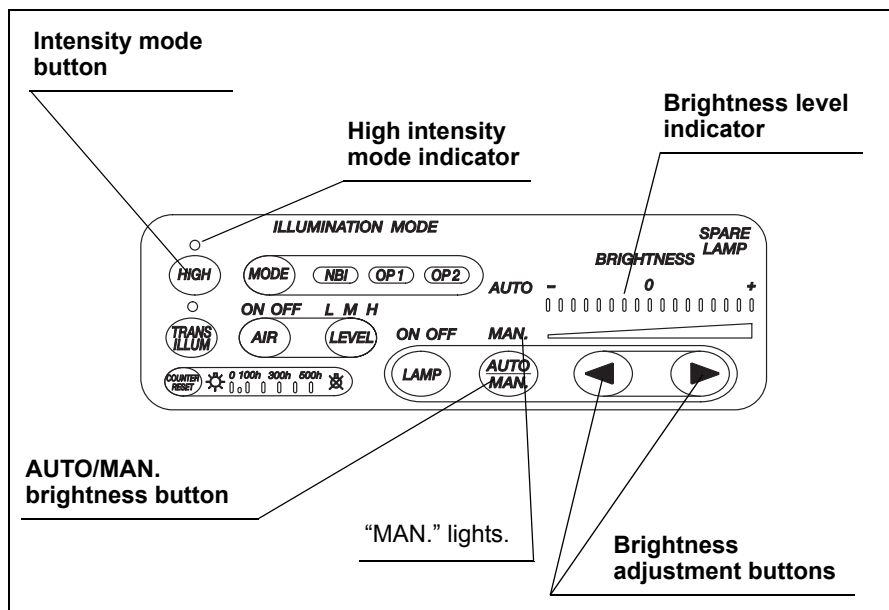

Figure 3.11
1. Press the AUTO/MAN. brightness button and confirm that the “MAN.” indicator lights (see Figure 3.11).
4. Press the intensity mode button to change the normal mode to high intensity mode (see Figure 3.11).